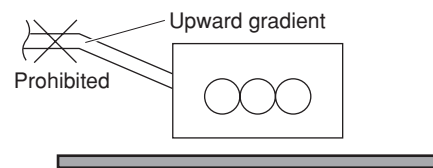

Fig. 3-92
- Do not install the pipe with an upward gradient from the connection port. This will cause the drain water to flow backward and leak when the unit is not operating. (Fig. 3-92)